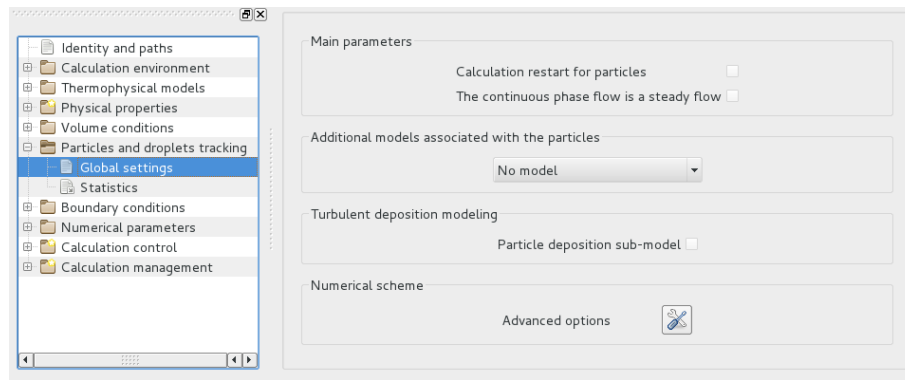
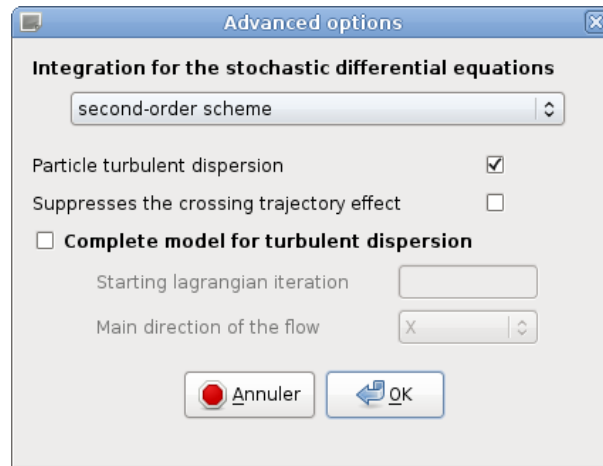

Figure 55: Lagrangian module - View of the **Global Settings** page
Figure 56: Lagrangian module - Global Settings, advanced numerical options
- **Global settings.** The user defines in this item the kind of Euler/Lagrange multi-phase treatment, the main parameters, the specific physics associated with the particles and advanced numerical options, see Figure 55 to Figure 56.